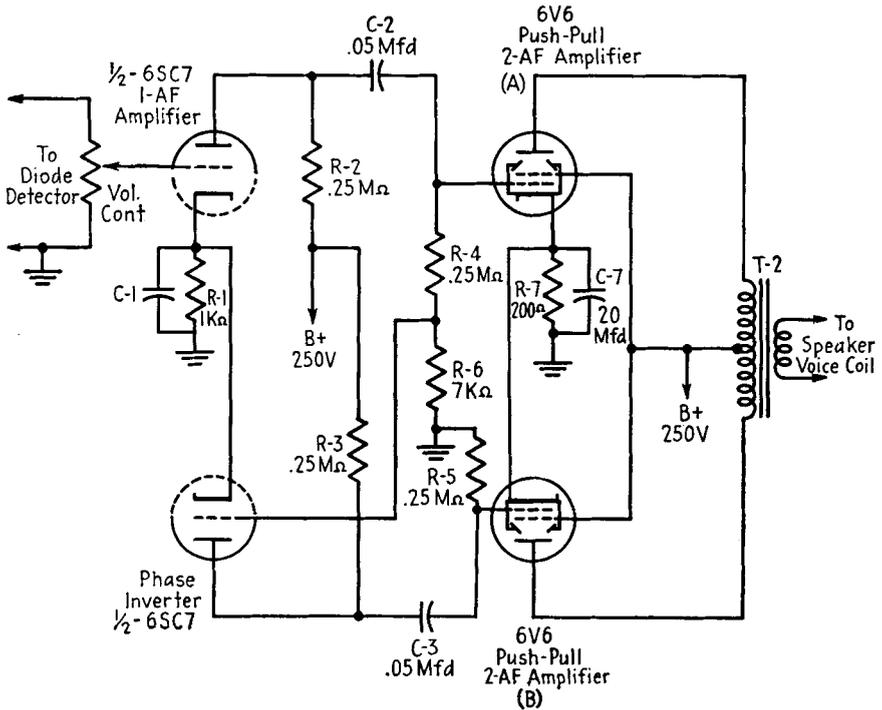

FIG. 22-16. Schematic diagram of a typical push-pull amplifier.
**Standard circuit.** We shall consider the circuit shown in Fig. 22-16 as the standard circuit for a push-pull amplifier. Normal voltage and resistance data will refer to this circuit.
**Normal voltage data.** The normal voltage data given in the accompanying table refer to Fig. 22-16.
**Normal resistance data.** The normal resistance data in the following table refer to Fig. 22-16.